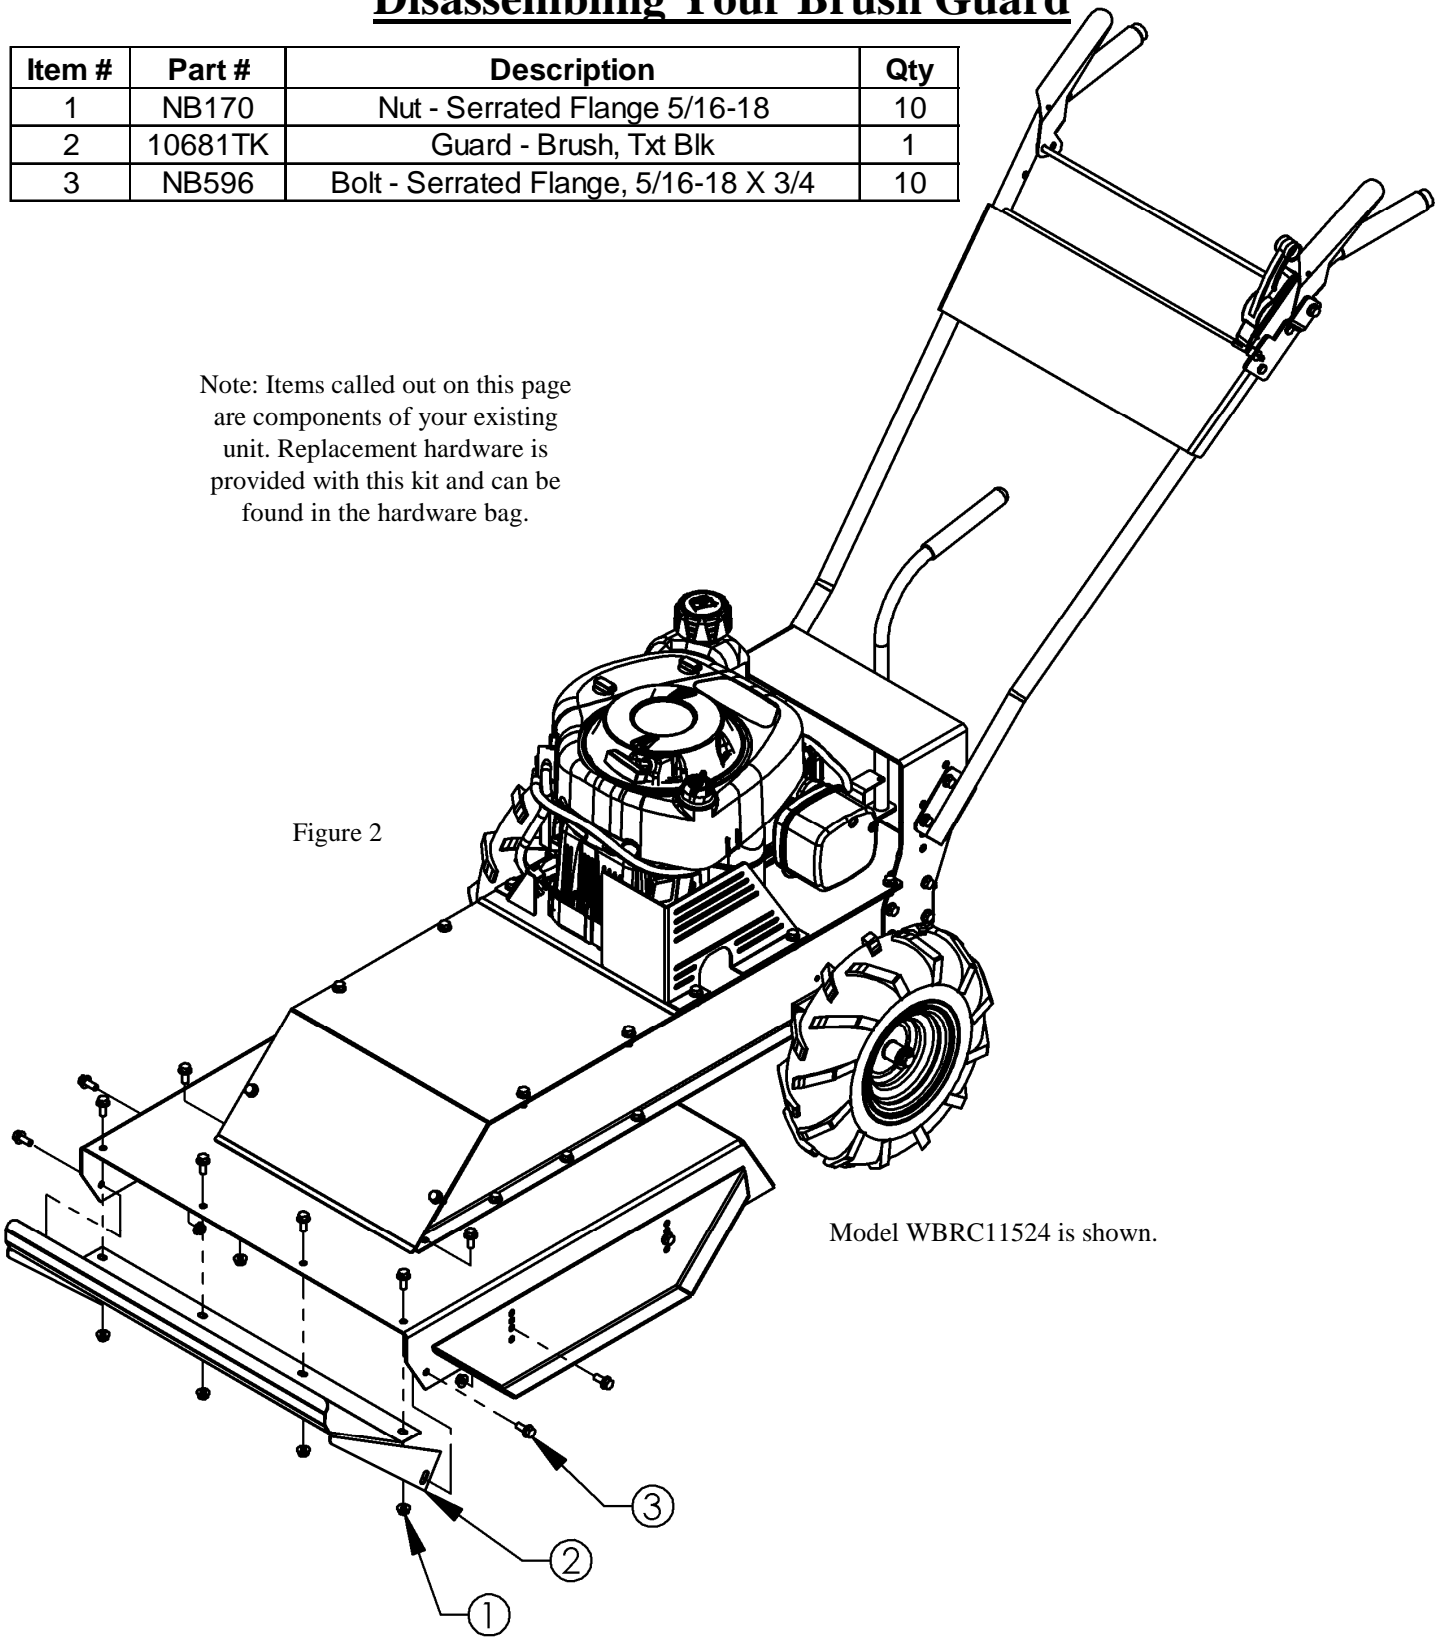

Figure 2
- Using two 1/2" box end wrenches, remove the original brush guard (10681TK) from your existing Walk Behind unit. It is held in place with six nuts (NB170) and six bolts (NB596). In order to assemble your caster kit to your unit, you will need to remove a total of ten nuts (NB170) and ten bolts (NB596) as shown in Figure 2.